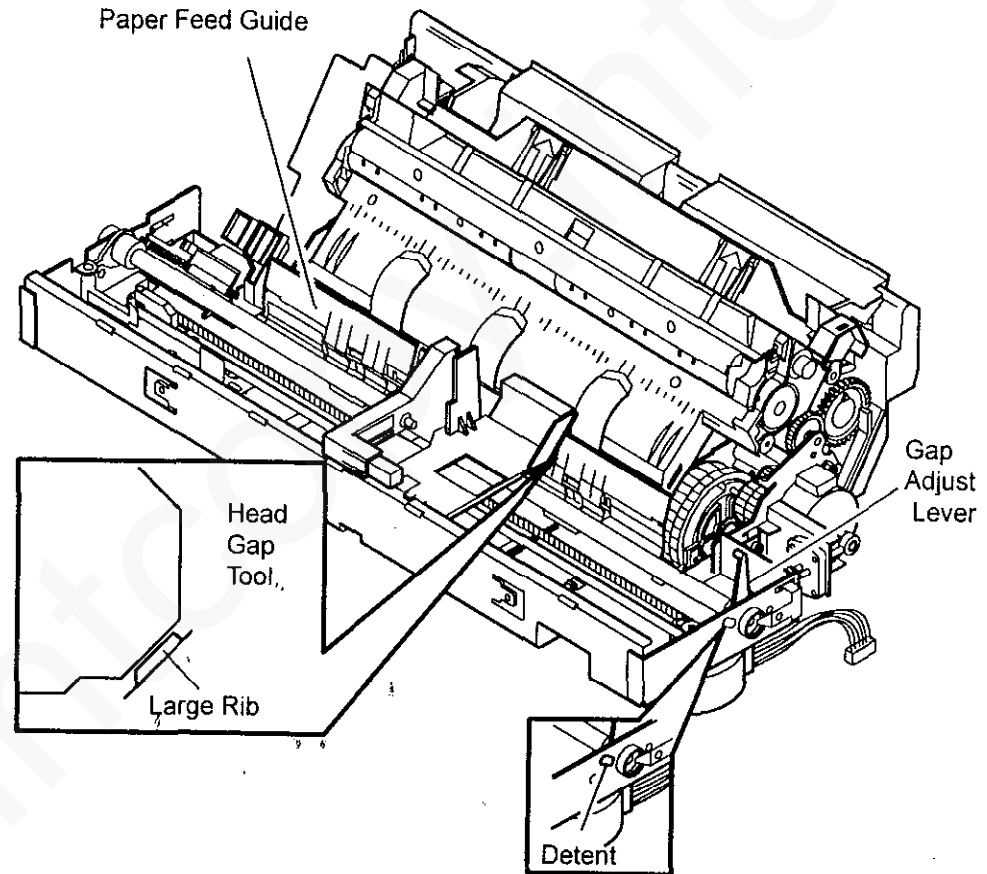

Figure 2 Checking the Head Gap
3. Move the Gap Adjust Lever to the Paper position (detent in carriage frame) (Figure 2).
- b. Align the Head Gap Tool with a large rib on the Paper Feed Guide (Figure 2).
NOTE: Ensure that the Gap Adjust Lever is in the Paper (detent) position when performing the adjustment (Figure 2).